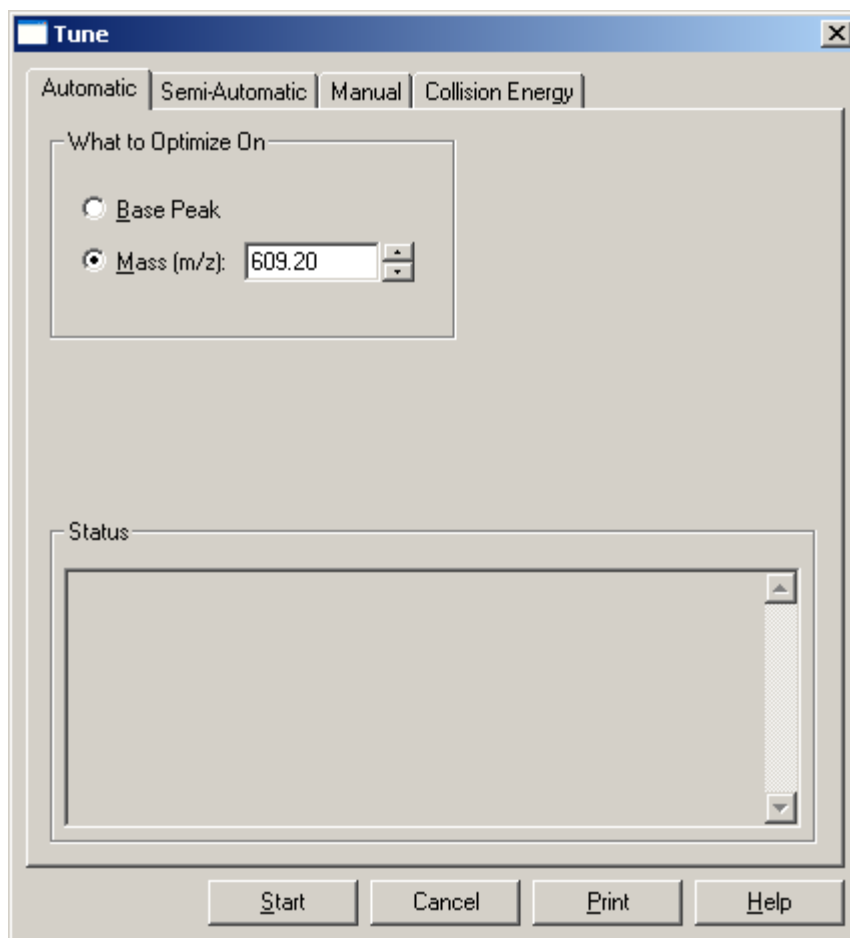

Figure 31. Tune dialog box, showing the Automatic tuning page
1. On the Control/Scan Mode toolbar, click on the Tune button to display the Automatic tuning page. See Figure 31.